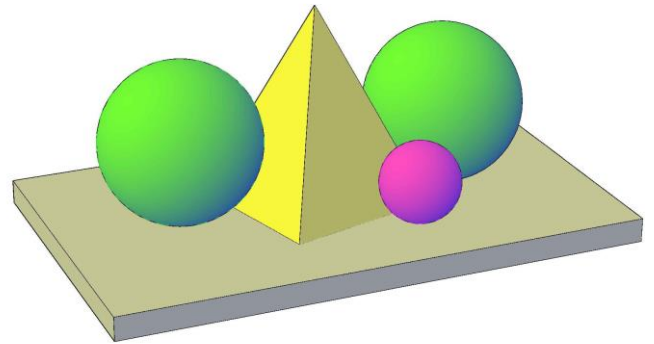

Figure 5a
- i) the 80 mm diameter sphere in contact with the sloping face A of the square pyramid; (5)
- ii) the other 80 mm diameter sphere in contact with the sloping face C of the square pyramid. (5)
- b) A third sphere of 40 mm diameter is then placed on the horizontal surface in front of and in contact with the sloping face B of the square pyramid and the sphere which is in contact with the sloping face C of the square pyramid (as shown in Figure 5a). Locate, by construction, the position of the third sphere in the front elevation and the plan view. (10)